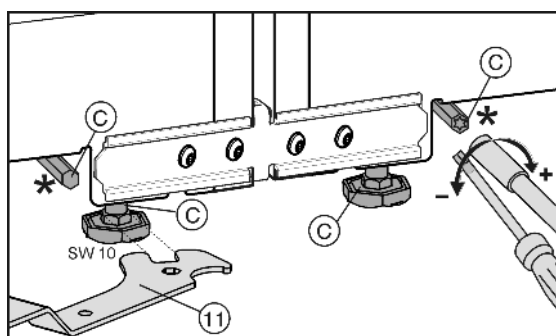

Fig. 8
You can adjust the front height-adjustable feet with the opened spanner *Fig. 8 (11)* included in the supply package, and the rear height-adjustable feet* with a Torx® 25 screwdriver.